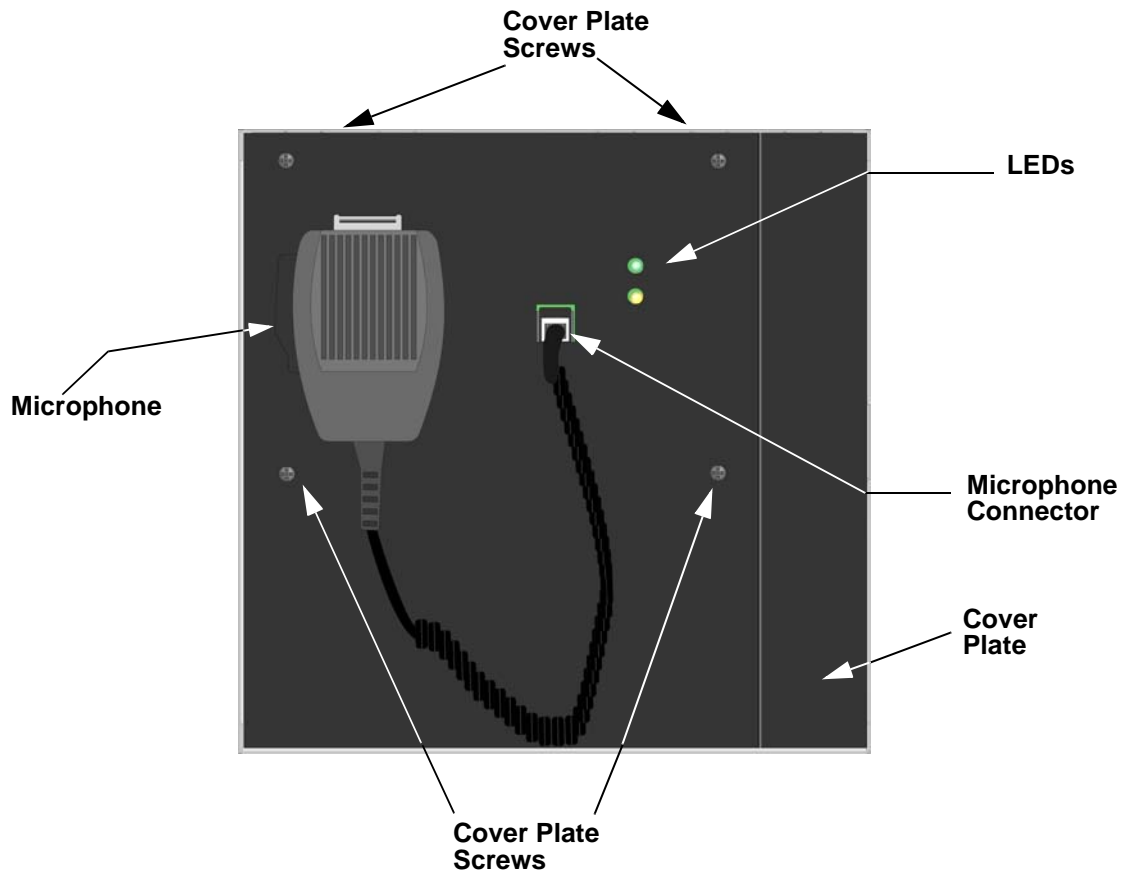

Figure 6-1 The SKE-SRM
3. Unplug microphone from microphone connector. See Figure 6-1.
4. Remove the cover plate by un-screwing the four cover plate screws (see Figure 6-1). Set the screws aside for later use.